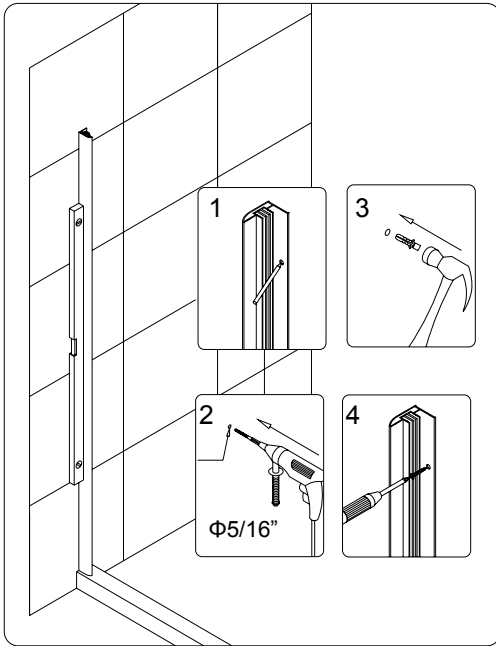

Fig 1
1. Remove the **Wall profile (01)** (this is the external part of the wall and glass profiles set with no holes along the surface side) and place it against the wall on the threshold in the designated position. Note that this part of the profile piece should be fastened as shown in Fig.1. Make sure it's leveled and plumbed. Mark the drill holes on the wall. Drill the holes, insert **Wall Anchors (07)** and attach the external profile wall profile to the wall with the **Screw ST4.2×30 (10)**. See Fig.1 for details.